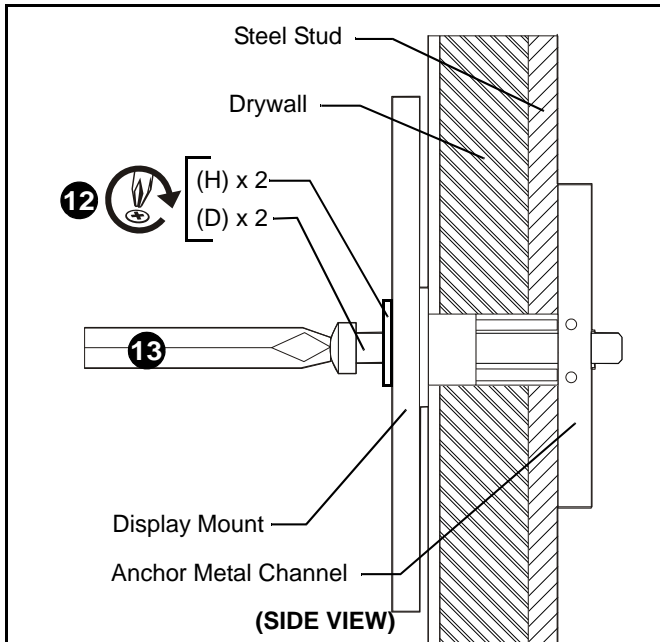

Figure 9
11. Place mount (A) over anchors and align mounting holes in display mount with holes in anchors. (See Figure 9)
12. Place flat washer (H) onto 1/4-20 x 1-3/4" Phillips pan head screws (D).
13. Insert 1/4-20 x 1-3/4" Phillips pan head screws (D) with flat washer (H) through mounting hole in display mount and into anchor (J) and tighten until flush against mount. DO NOT overtighten! (See Figure 9)